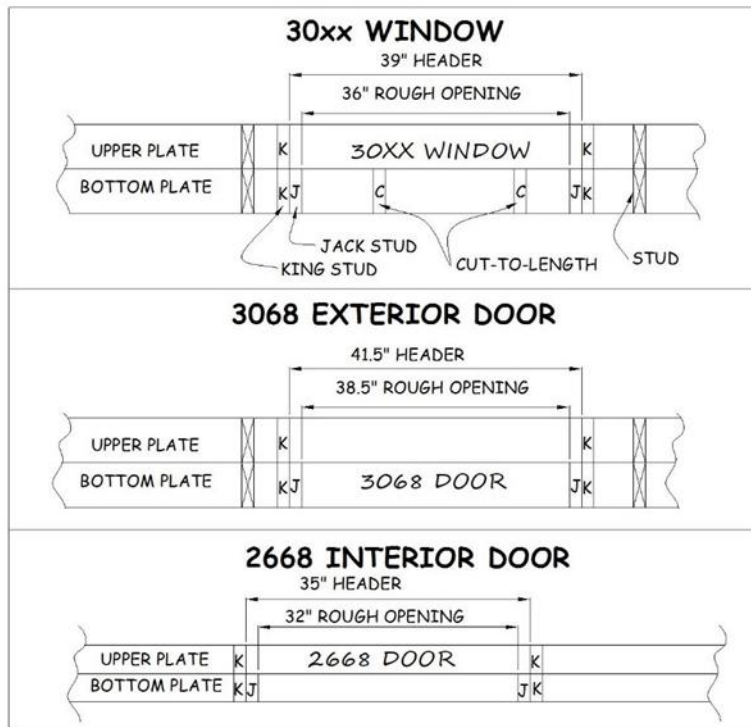
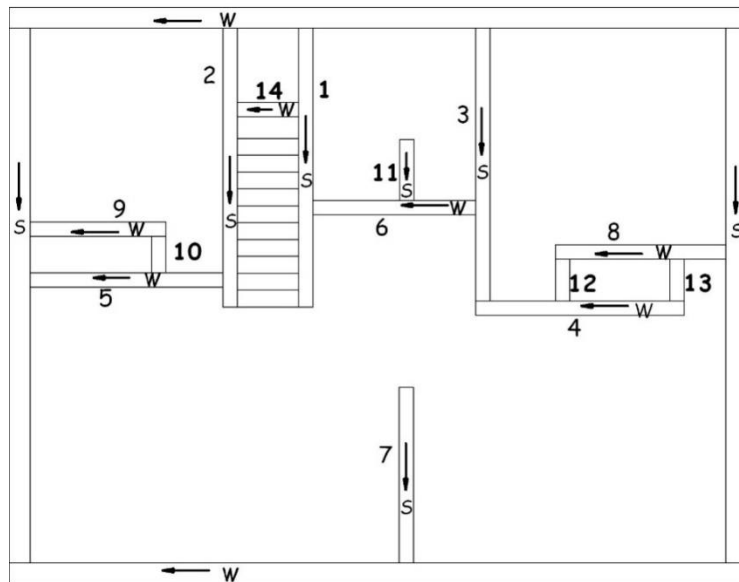

Figure 3-4. Plate Marking for Doors and Windows.
Figure 3-7. Plate Labeling Diagram.
3. Referring to the window or door sizes indicated on the Plate Layout Drawing, measure and mark the location of the King and Jack studs supporting the header (see Figure 3-4.). Window and door sizes are indicated with a four-digit code. The first two digits represent the width of the opening in feet and inches. The second two digits represent the height of the opening in feet and inches. For example, a 3040 window is 3'-0" wide by 4'-0" high (i.e., 36" wide by 48" high).
4. Label the King and Jack stud locations with “K” or “J” to specify the location of the pre-built window and door components during wall assembly. The Jack studs will always be to the inside of the King Studs. Stud width is always 1½”. Label the location of both King and Jack studs on the bottom plate but label only the King stud on the upper plate (see Figure 3-4).
- a. Mark the inside edge of the upper plate with “UPPER” and the inside edge of the bottom plate with “BOTTOM” (see Figure 3-4). Mark the upper plate with a letter and arrow showing the compass orientation (north, south, east or west) of the plates while lying on the deck (see Figure 3-7).
5. When complete, label upper and bottom plates. Mark compass orientation and label both plates and deck with an identifying number (see Figure 3-7).